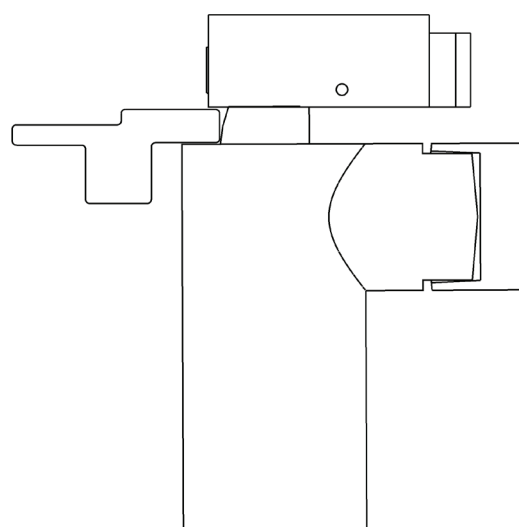

Figure 5-3
- If the Gauge has any play, adjust the Strike by adding shims. Refer to Figure 5-3 for the maximum engagement.